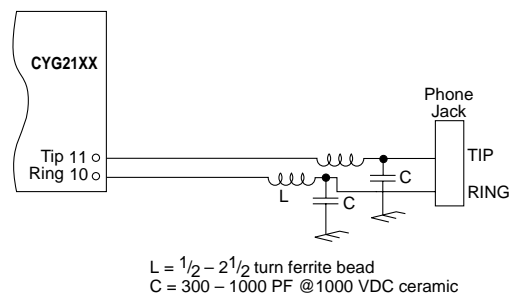

Figure 9. EMI Considerations
- Include a provision on your PCB design for a 1/2 turn ferrite bead and capacitor in your layout from the Tip and Ring terminals of the DAA to the telephone jack as shown in figure 9. This LC network will form a low pass filter that will roll off high frequencies. The decision to populate the board with these components will be based on the results of the radiated emissions coming out of the telephone line during EMI testing.